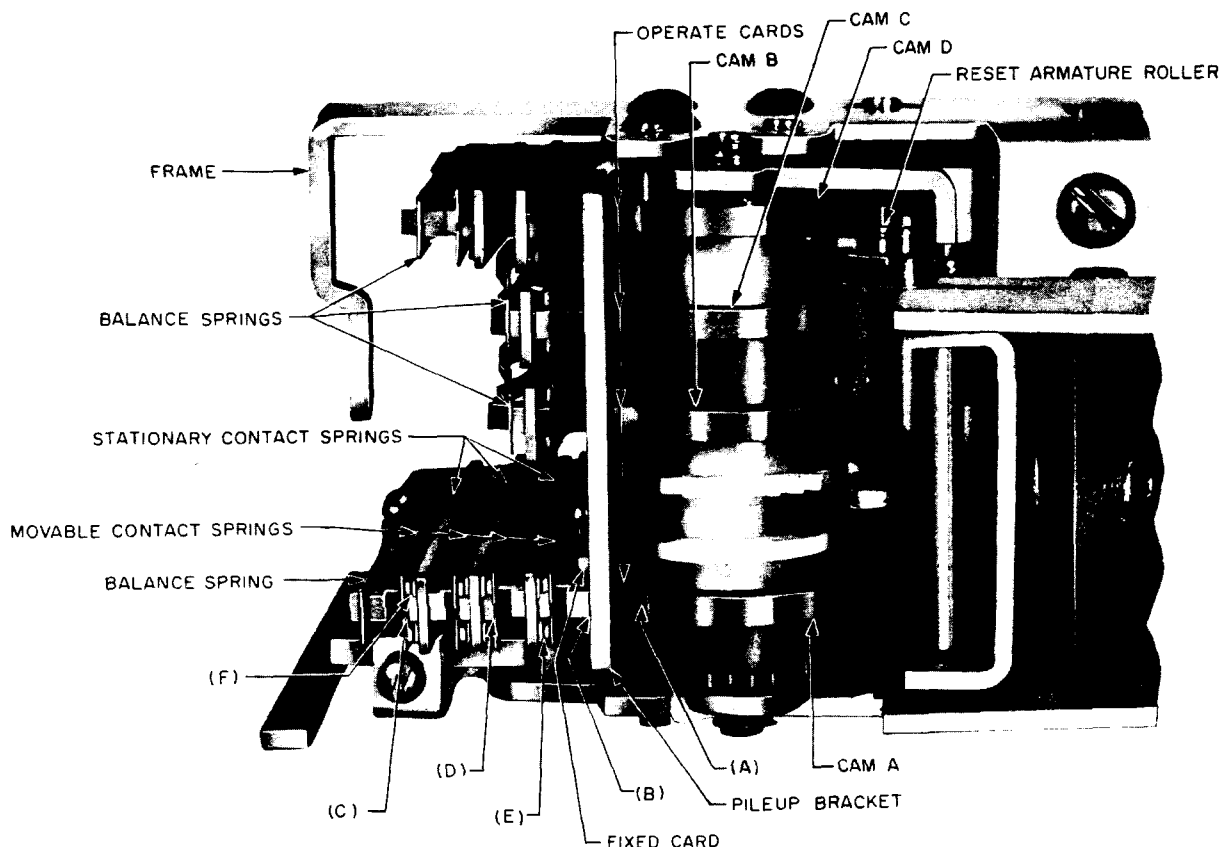

Fig. 3 - Partial Right Side View of 3-Type Counter (cover removed)
**\*φ2.04 Clearance Between Tip of Operate Card and Cam:** Fig. 3(A)
**\*φ2.05 Clearance Between Shoulder of Operate Card and Pile-Up Bracket: Fig. 3 (B) —**
**\*φ2.06 Clearance Between Movable Break Contact Spring and Mating Surface of Operate Card: Fig. 3(C) —**
**\*φ2.07 Clearance Between Movable Make Contact Spring and Mating Surface of Operate Card: Fig. 3(D) —**
**\*φ2.08 Clearance Between Movable and Stationary Make Contacts: Fig. 3(E) —**
**\*φ2.09 Clearance Between Movable and Stationary Break Contact: Fig. 3(F) —**
**φ2.10 Position of Stationary Contact Spring:** Fig. 3
**\*φ2.11 Pressure of Balance Spring:** Fig. 3 and 4—
**\*φ2.14 Clearance Between Reset Armature Roller and Lobe of Cam D:** Fig. 3 — The reset armature roller shall clear the lobe of cam D when the reset armature is in the released position [1.08(b).]